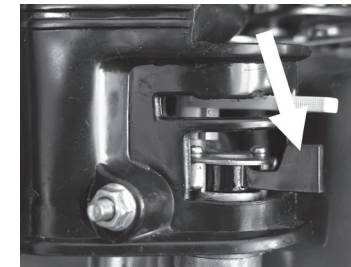

Fig. 6
1. Open the fuel supply by setting the fuel tap lever to the right (Fig. 6).